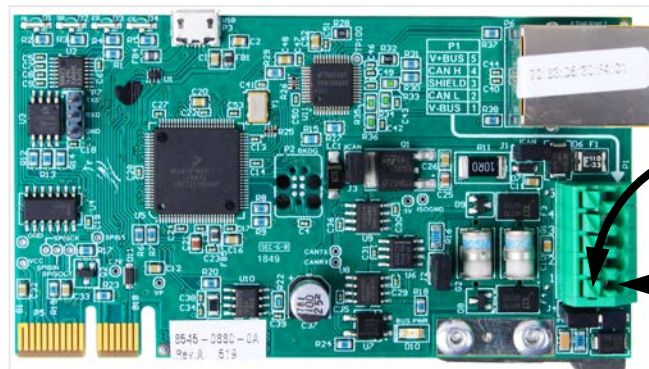

Figure No. 16
9. Referring to Figure No. 16, use a small flat-blade screwdriver to press down on the release for the terminal, insert the wire into the opening, and then remove the screwdriver. The release will return to its original position, locking the wire in place.